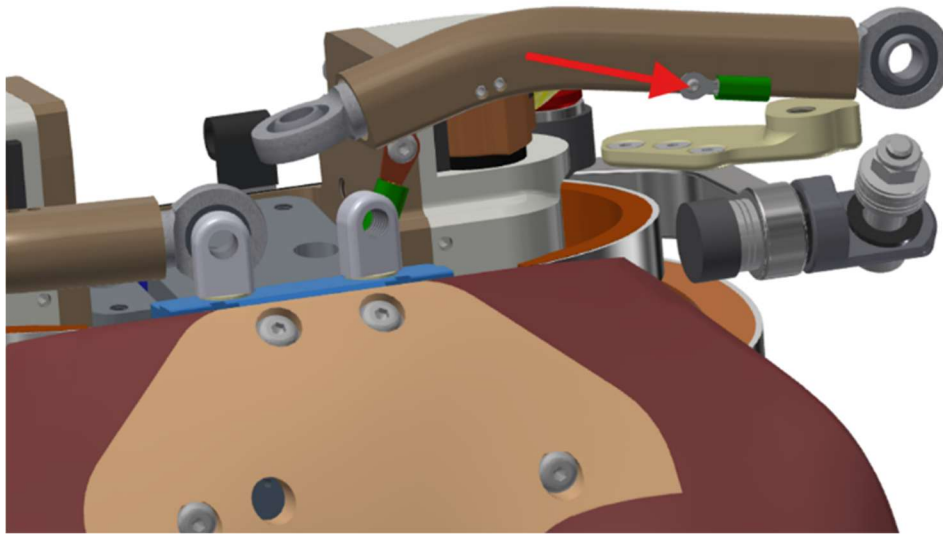

Figure 5-13. Remove the ground strap from the left and right clavicle load cell
- 5.2.7 Remove the grounding straps from the left and right clavicle load cells by removing one M2 X 0.4 X 0.6 LG. BHCS from each load cell (Figure 5-13).